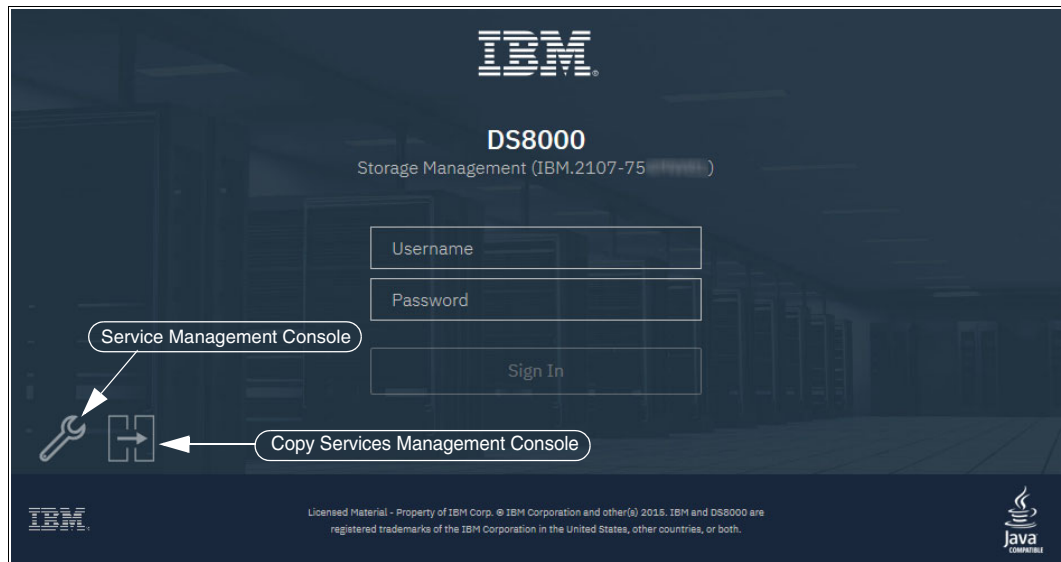

Figure 6-11 DS Storage Management GUI Logon window
1. Start the Storage Management GUI, as shown in Figure 6-11. Click the **Service** icon (wrench) to access the Service MC.